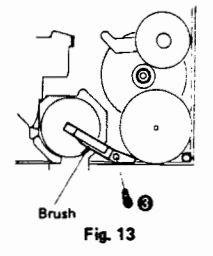

Fig. 13
5. Remove the screw (③) and remove the brush (Fig. 13).